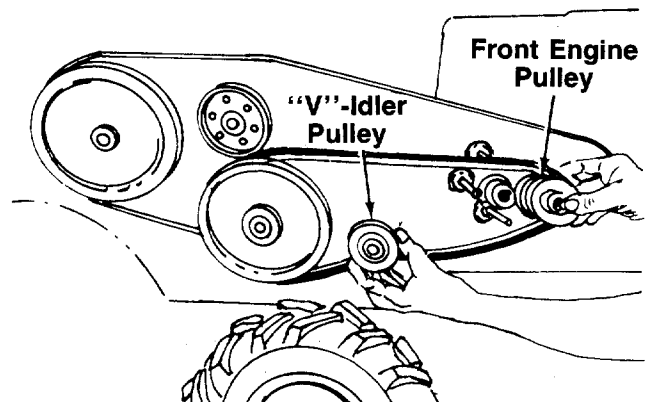

FIGURE 25.
5. Slide the front engine pulley and "V"-idler pulley out as shown in figure 25.